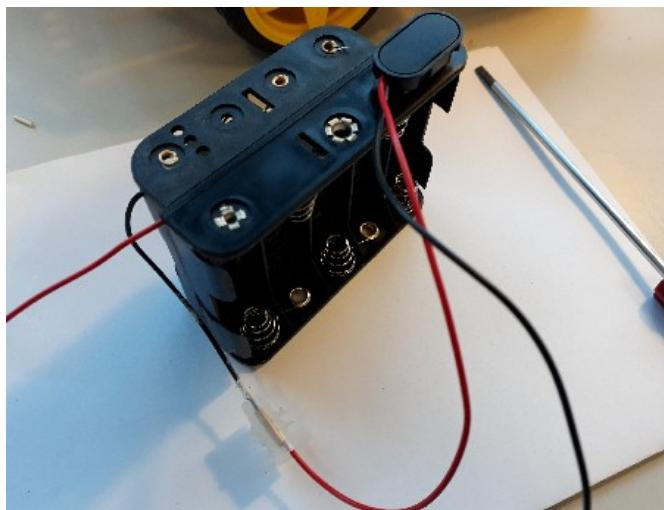

Figure 10: Connecting the battery pack to the battery clip.
Step 9: The black wire coming out of the x4 AA battery pack is a bit too long, cut it to around 7cm (if it has not already been cut). Once this is done, connect it to the red wire with from the battery clip, using the junction box. Then, clip the battery clip onto the x5 AA cell battery pack. This is all shown in figure 10.